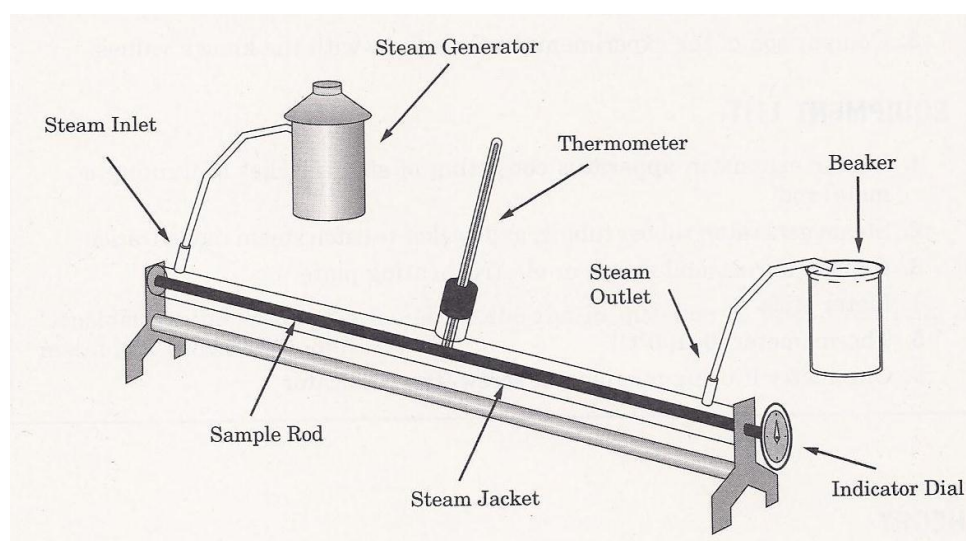

Fig. 12.1 Linear Expansion Apparatus for Metals.
The apparatus to be used in this experiment is shown in figure 12.1. It consists of a steam jacket containing a metal rod about 0.6 m long. The jacket is held by two supports by either end. One of the end supports has a thumbscrew to keep this end of the rod fixed. The other end contains an indicator to measure the change in length of the rod.
2. Replace the rod in the steam jacket, arrange the apparatus as shown in Figure 12.1 and make sure that the rod rests firmly against the indicator.